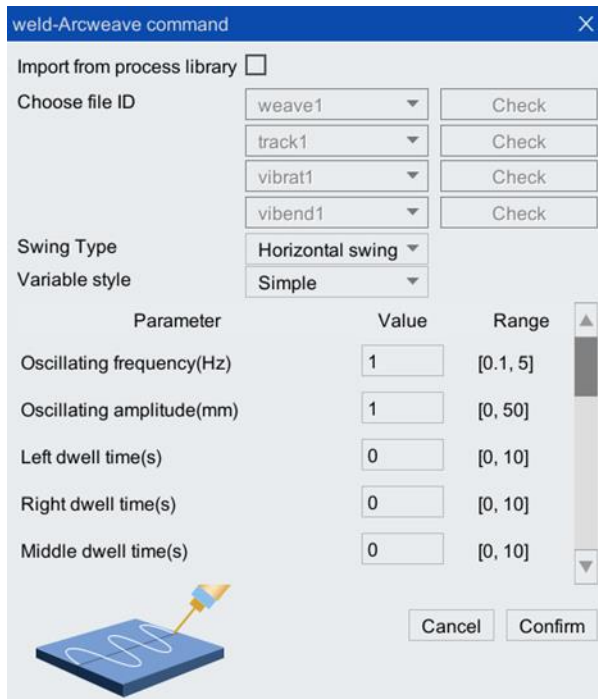

Fig. 7-2 "Arc Welding-Weave Instruction" interface
Step 2. Complete the process file import or parameter configuration on the pop-up " weld-Arcweave command" interface, and then click "Confirm". It generates the start weave instruction automatically, as shown in Fig. 7-2.